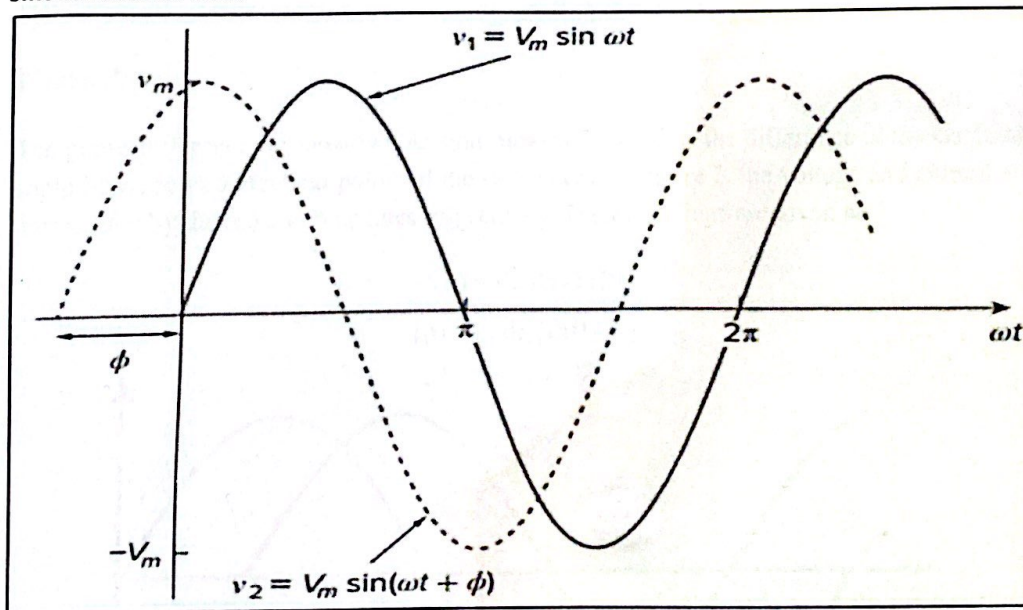

Figure 1: A Sine wave
- Open a new schematic window by clicking **File** → **New Schematic**. Draw the circuit shown below in **Figure 1**. Modify the components with their values and name the nodes. To name the nodes, **Right-click on the wire/node** → **Label Net**. Do not forget to add a ground to the circuit.